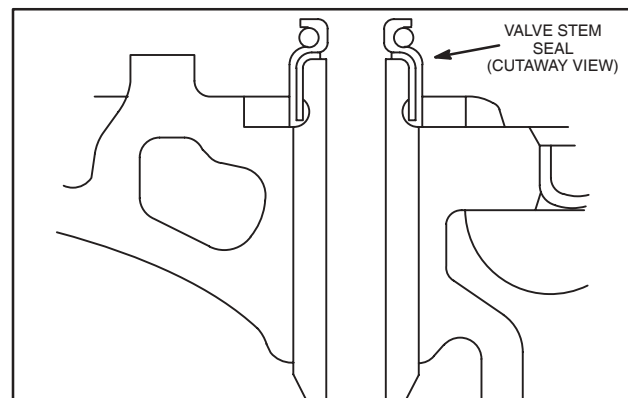

Fig. 29 – Install Valve Stem Seals
1. Install new valve stem seals, Fig. 29. Oil inner surface and lip of seal before installing. Press seal on to valve guide bushing until it bottoms.